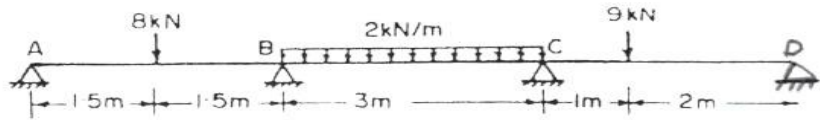

Figure -2
5. Analyze the continuous beam shown in Figure -2 by Slope Deflection Method (14M)